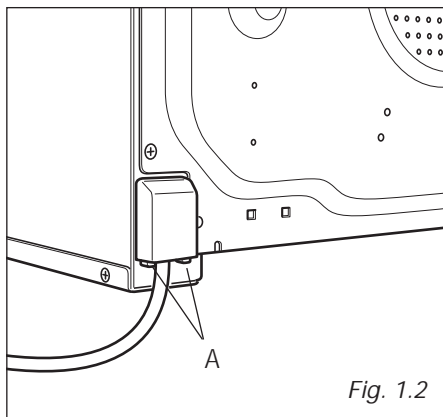

Fig. 1.2
- Unhook the terminal board cover by inserting a screwdriver into the two hooks "A" (fig. 1.2).